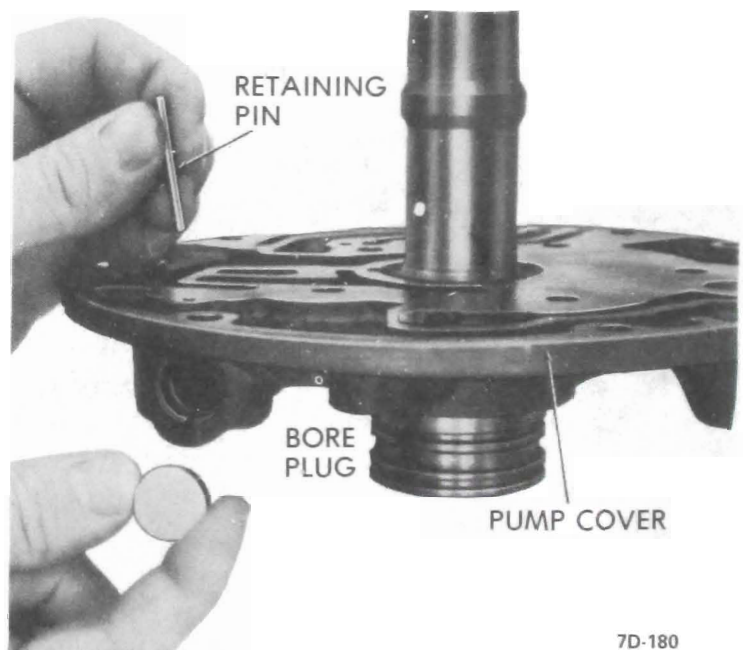

Figure 7D-180
9. Remove two hook type oil rings from the pump cover. See Figure 7D-182.